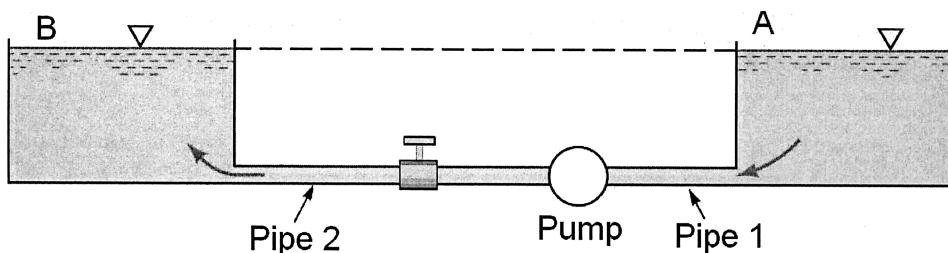

Figure 5
- (b) Water is pumped from reservoir A into reservoir B as shown in Figure 5 through smooth pipes 1 and 2. The elevations of the free surface of reservoirs A and B are equal and the pump characteristic is given as:
Note: Figure 5 appears on page 5.